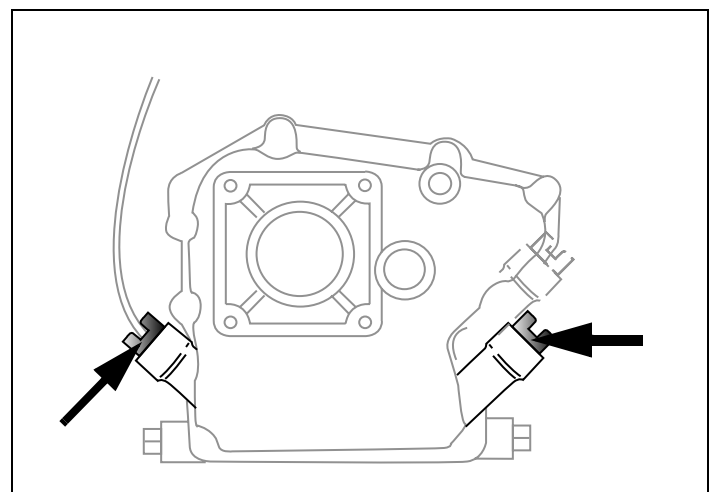

Figure 12. Possible Oil Fill Plug Location(s)
All models in this manual may be equipped with optional oil fill plug locations. See Figure 12.
2. Clean area around oil fill plug(s). See Figure 12.